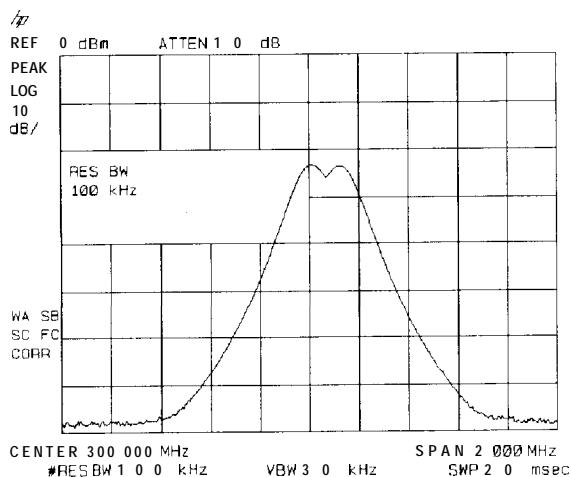

Figure 3-2. Resolving Signals of Equal Amplitude
Generally, to resolve two signals of equal amplitude, the resolution bandwidth must be less than or equal to the frequency separation of the two signals. If the bandwidth is equal to the separation a dip of approximately 3 dB is seen between the peaks of the two equal signals, and it is clear that more than one signal is present. See Figure 3-2.
4. Since the resolution bandwidth must be less than or equal to the frequency separation of the two signals, a resolution bandwidth of 100 kHz must be used. Change the resolution bandwidth to 100 kHz by pressing **BW** 100 **kHz**. Two signals are now visible as in Figure 3-2. Use the knob or step keys to further reduce the resolution bandwidth and better resolve the signals.